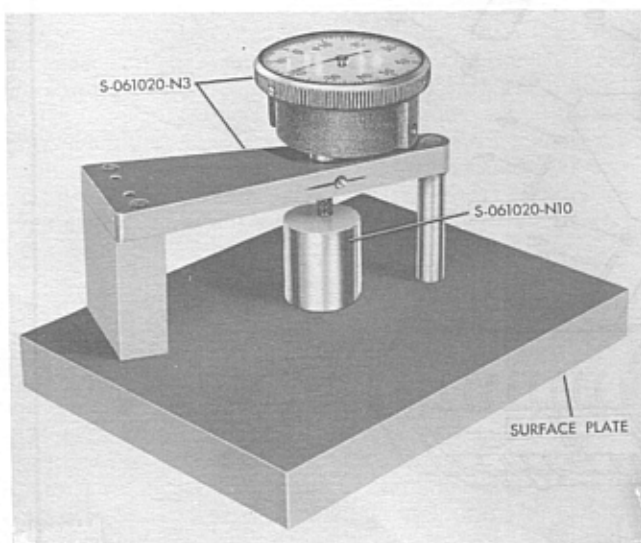
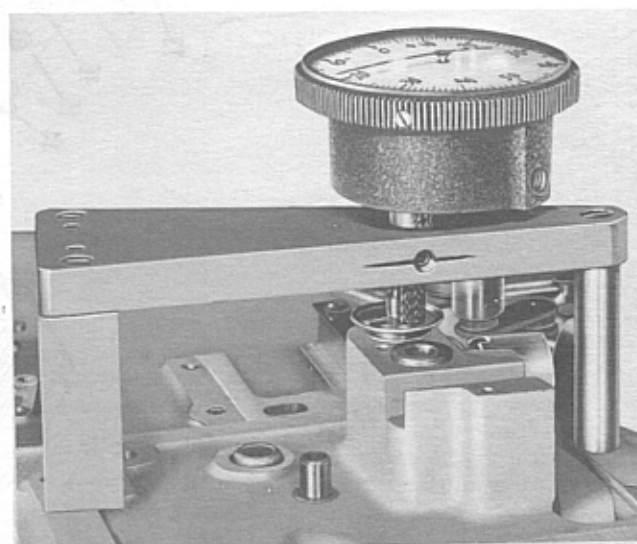

Figure 2-33. Setting the Camshaft Indicator Gage
Figure 2-34. Setting Camshaft with Gage
a. Assemble lubricating parts (60, 61, 62, 67 and 68) to mechanism plate. Felt wick (61) and oil pad (68B) should be saturated with oil (Military Specification MIL-O-6086) before reassembly.
b. Screw shaft (59) into pivot bar (55) and attach bar to mechanism plate with screw (56) and washers (57 and 58). Spring washer (57) must be installed with cup face toward bar. Hold collar (50), beveled face up, in place between arms of bracket (52) and slide bracket and collar up onto shaft (59). Secure bracket with screws (53) and lock washers (54). Slide collar up until it touches bracket and tighten set screws (51).
c. Fasten bracket (26) to mechanism plate with screws (27) and lock washers (28). Do not tighten screws. Insert drive shaft (46) through bracket and into bearing in mechanism plate. Make certain that drive shaft is aligned squarely in both bearings, shifting bracket (26) if necessary. Then tighten screws (27). Withdraw shaft from mechanism plate to permit installation of collar (41), gear (43), and washer (45) on shaft. Press shaft back into mechanism plate until end of shaft is flush with front face of mechanism plate bearing. Press gear and washer toward mechanism plate until washer bears against flange of bearing. Tighten two set screws (44) securely. Move collar (41) until it touches bearing in bracket (26) and tighten its set screws (42) securely. Shaft should turn freely with a minimum end play of 0.003-inch. Secure sprocket (24) to shaft with set screw (25).
d. Fasten mounting plate (39) to mechanism plate with three screws (40). Install shim washers (35) on front camshaft (34) and insert camshaft through its bearing in the mechanism plate. Place master block (Tool No. S-061020-N10) on a surface plate with front camshaft indicator gage (Tool No. S-061020-N3) positioned above it as shown in figure 2-33. With stem of gage just touching the master block, adjust indicator until pointer reads "zero". Place indicator gage on machined surface of mechanism plate as shown in figure 2-34. With stem of gage just touching end of front camshaft, indicator should read "zero". Add or remove shims (35) on front camshaft until condition is met.
e. Install shims (33) and gear (29) on front camshaft, aligning slot in gear with slot in camshaft. Assemble lock ring (32) into slot in gear and camshaft and install screw (30) and lock washer (31). Camshaft must revolve freely with no noticeable end play. If necessary, shim washers (33) must be added or removed until these conditions are met.
f. Assemble rear camshaft (38) and gear (36) to mechanism plate. Hub of gear must face away from mechanism plate. Tighten set screws (37) just enough